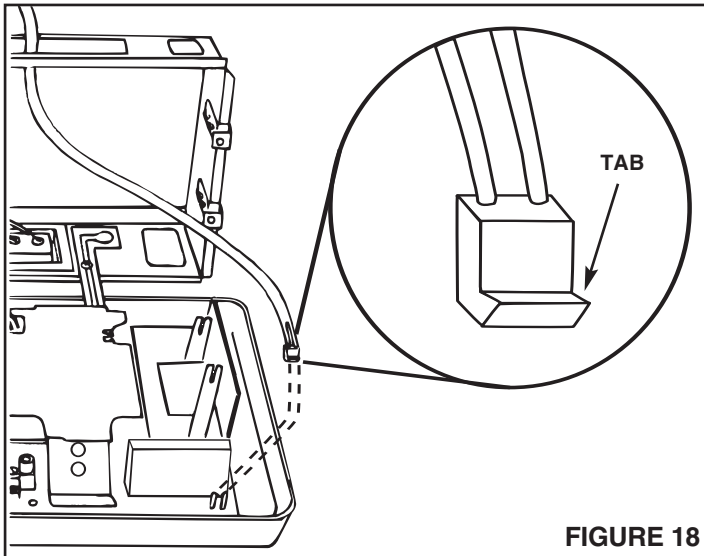

FIGURE 18
1. Refer to Figure 18. Plug radio antenna (supplied with IR105 rough-in frame) into the 2-pin connector located on the main circuit board. Be certain the tab on the connector is facing towards the top of the master unit, as illustrated.